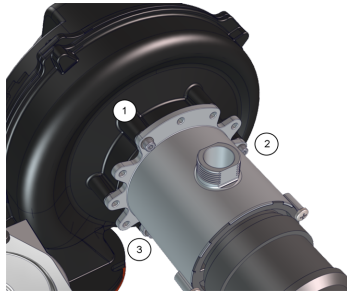

Figure 50 *Location of screws securing mixing device to fan*
7. Use a 3mm Allen key to remove the three (3) screws connecting the mixing device to the fan. (See Figure 50). Ensure that the fan O-ring stays seated in the fan groove during reassembly.